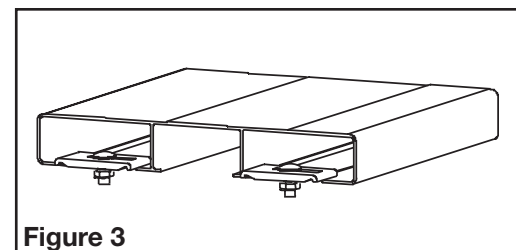

Figure 3
a. Insert two (2) tie down clip assemblies within all foot deck and seat planks at each frame location as indicated in Figure 3.